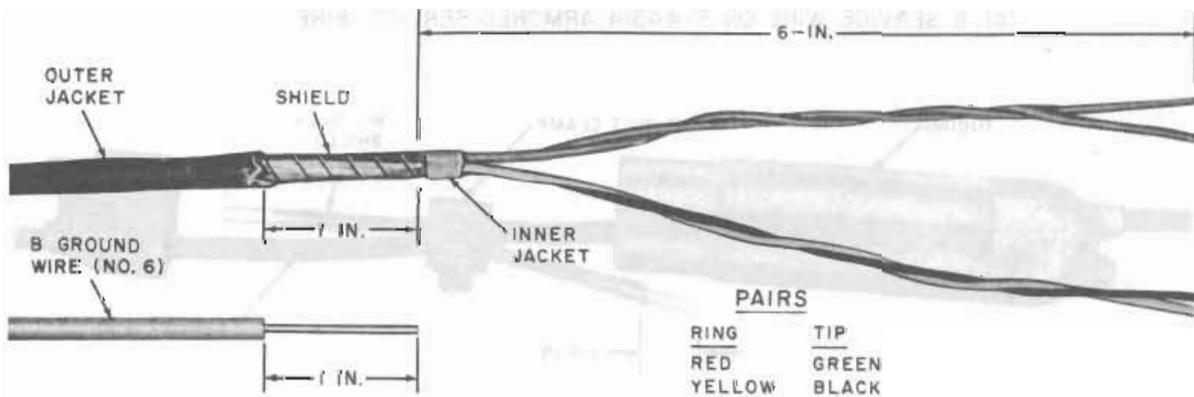

Fig. 37—Prepared Service Wire 13- or 14-Type Closure
13.03 Prepare filled service wire as shown in Fig. 37.